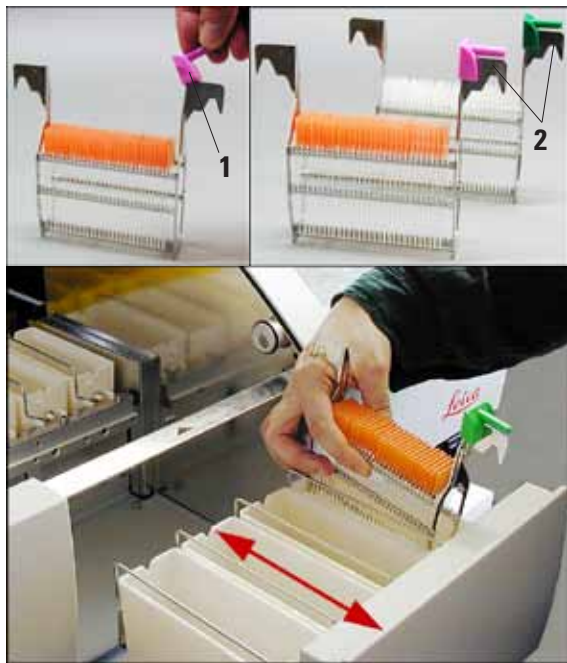

Fig. 66
- Open the load drawer and insert the racks as shown in Fig. 66 in one of the load stations with the clips facing outwards (towards the user).